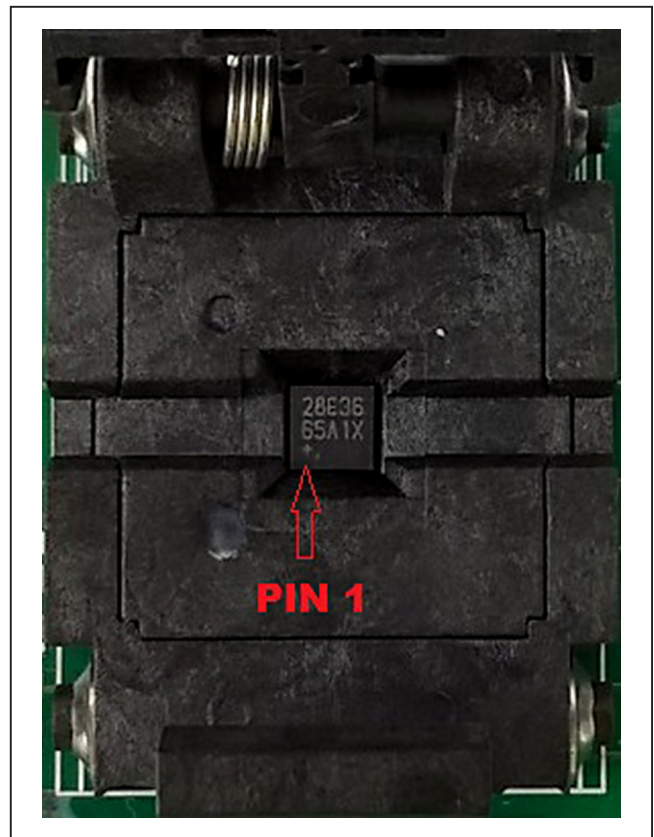

Figure 9. Orientation of the DS28E36 and DS2476 in the Burn-In Socket
- a) Open the first burn-in socket and insert a DS2476Q+ into one of the cavities, as shown in Figure 9. **Note:** The plus (+) on the package must be on the opposite side of the marker in the socket.
- b) Open the second burn-in socket and insert a DS28E36Q+ into one of the cavities, following the same orientation shown in Figure 9.